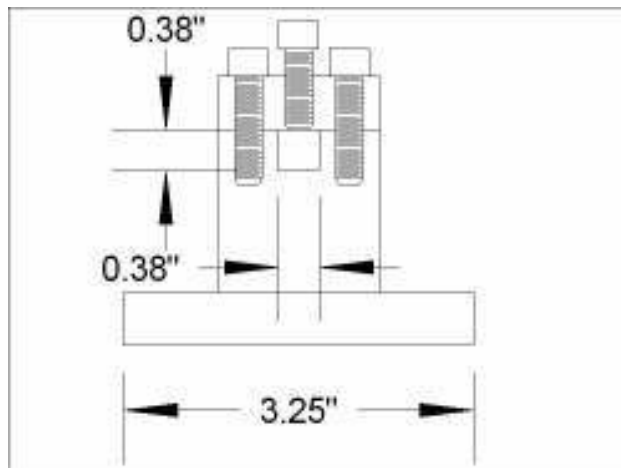

Figure 7 - Front View of the Square-stock Tool Holder
- Figure 7 - Front View of the Square-stock Tool Holder . . . . . 5